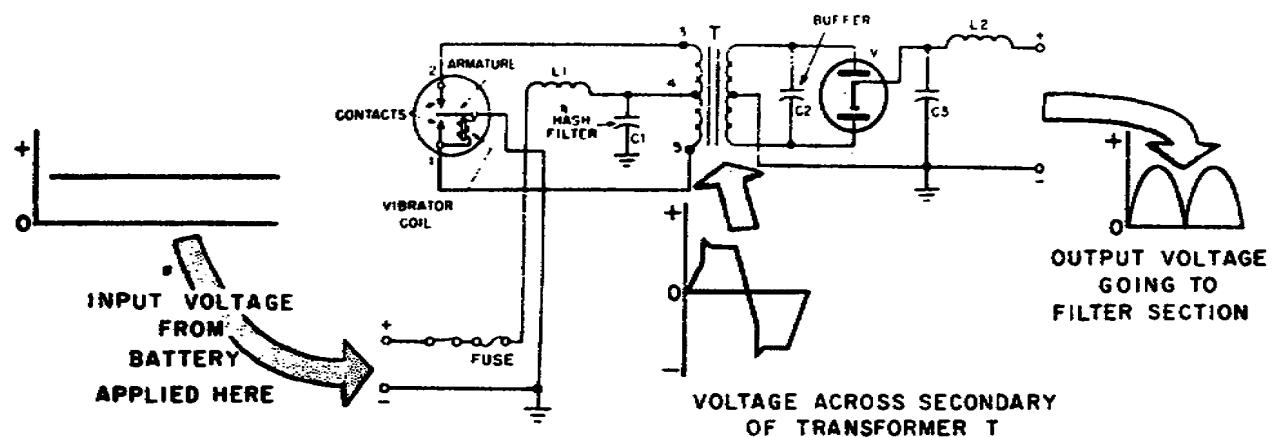

Figure 9. Schematic of vibrator power supply with waveshapes.
a. Vibrator-type power supplies are used most extensively with radio equipment mounted in vehicles. Figure 9 shows a basic vibrator circuit. Briefly, the circuit works this way.
(1) The low dc voltage (6, 12 or 24 volts) from the battery is changed to pulsating dc by the vibrator.
(2) This pulsating dc then induces an ac voltage in the secondary of transformer T.
(3) The ac voltage is then rectified by V1 and coupled to the filter section.
(4) The output of the filter is a relatively high dc voltage ready to furnish the necessary potentials for the radio set.